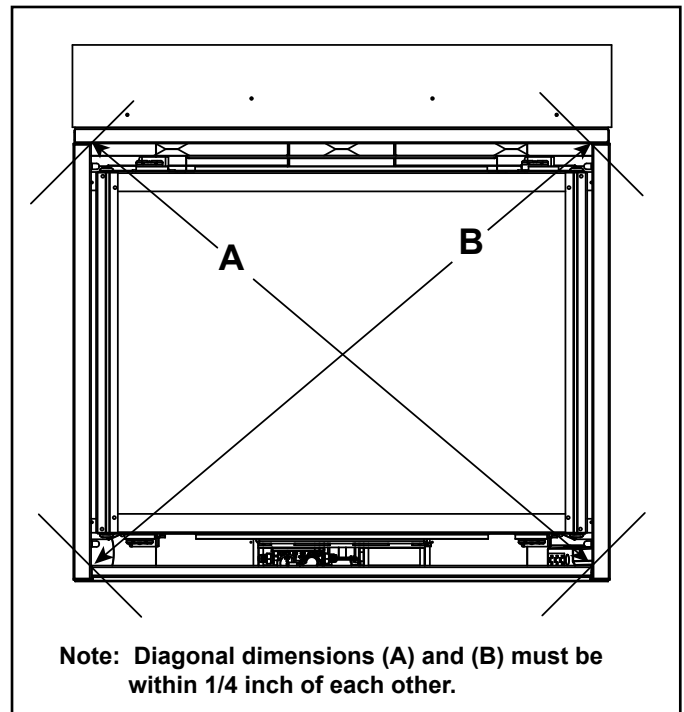

Figure 6.6 Positioning the Appliance Squarely
Secure the first section of venting to the fireplace by screwing through the two straps left over from cutting the seal cap strap (Figure 6.6).
- “Square” the appliance by securing diagonal dimensions to within 1/4 inch of each other. See Figure 6.6.